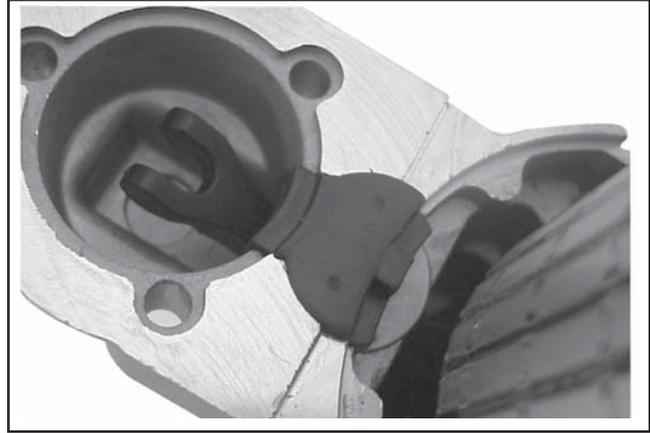

Figure 8-35. Installing Backup Washer and Grommet.
7. Install the backup washer, followed by the rubber grommet, into the matching recess of the drive end cap. The molded recesses in the grommet should be "out", matching and aligned with those in the end cap. See Figure 8-35.